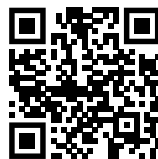

Fig. 151
- ▶ 请打开 Liebherr SmartMonitoring Dashboard。(参见 Fig. 151)